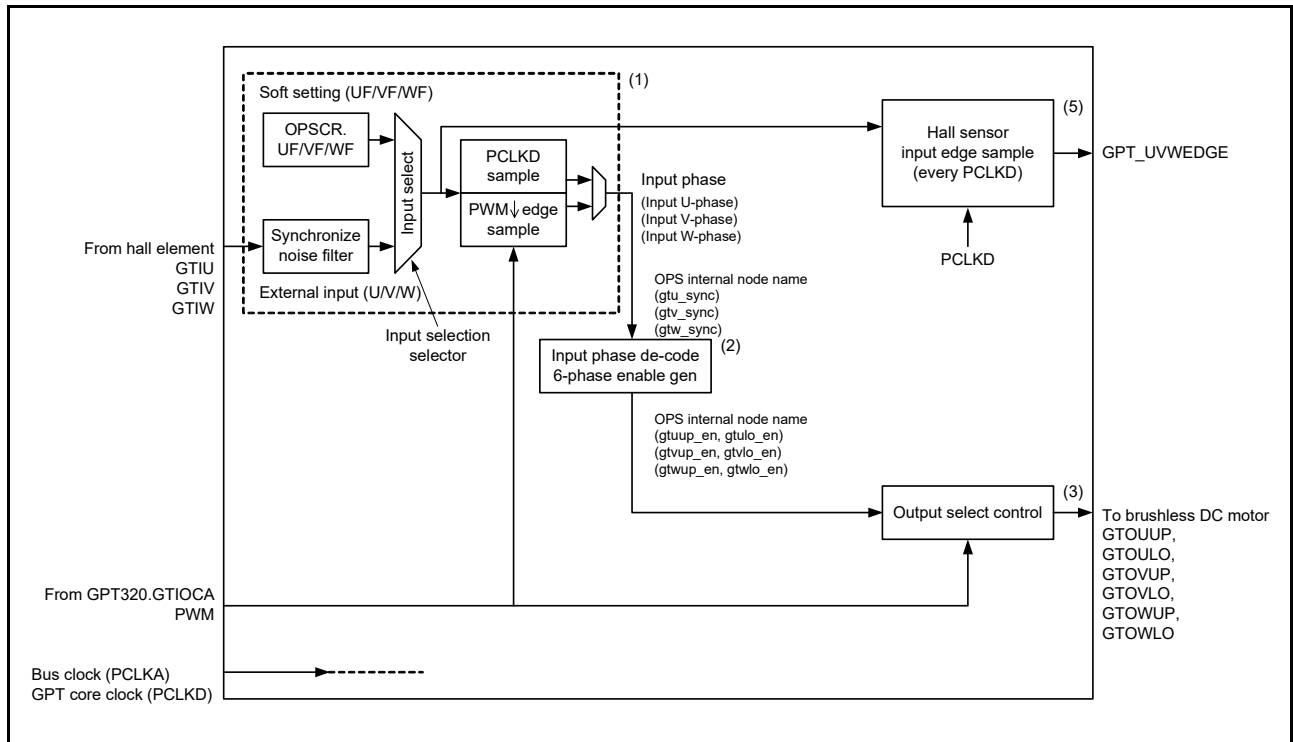

Figure 22.77 Conceptual diagram of GPT\_ OPS control flow
Figure 22.77 shows the GPT\_ OPS control flow conceptual diagram.
In the GPT\_ OPS control flow conceptual diagram shown in Figure 22.77, (1) is a selection of input phase from software settings and external input by the OPSCR.FB bit.
In the GPT\_OPS control flow conceptual diagram shown in Figure 22.77, (2) enables the 6-phase signals by decoding the input phase selected by the OPSCR.FB bit. The 6-phase enable signal is used for internal processing of GPT\_OPS.
In the GPT\_OPS control flow conceptual diagram in Figure 22.77, (3) represents the selection of the output waveform by setting the OPSCR register bit.
In the GPT\_OPS control flow conceptual diagram shown in Figure 22.77, (5) outputs the Hall sensor input signal edge to the ELC.